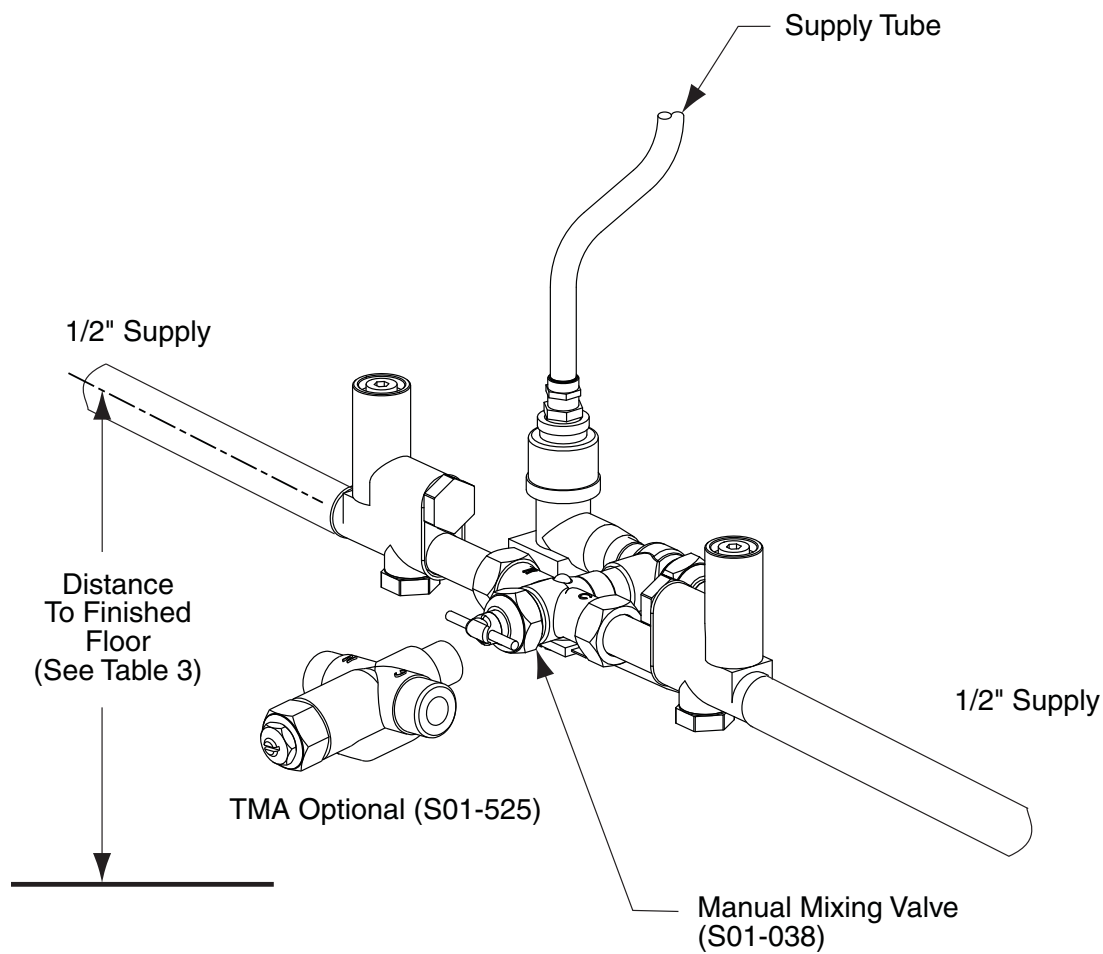

Figure 8
3. Using suitable fittings, install the complete valving assembly to the supplies as shown in Figure 8 at the approximate height indicated in Table 3.